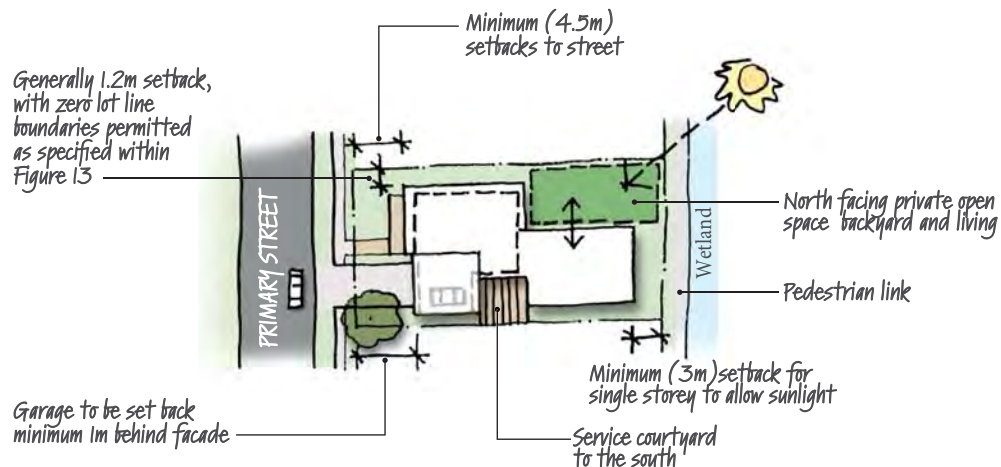

FIGURE 12: West-east lot with primary street address and dual frontage
#Ground floor side setback of 0m to dwelling and/or garage only permitted for lots defined in Figure 12. Also refer to Figure 17-18 for 11m and 13m lot width side setback. 150mm will be required in some instances, see Section 3.4
- Zero Lot Line building is to be in accordance with Figure 12.